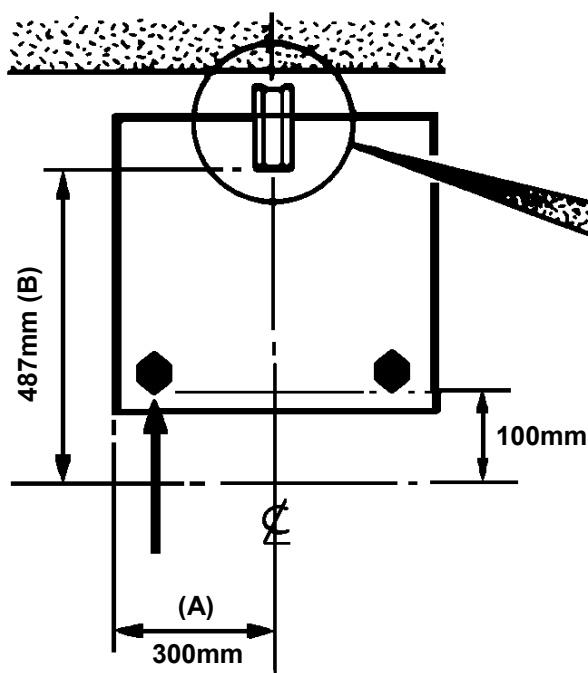
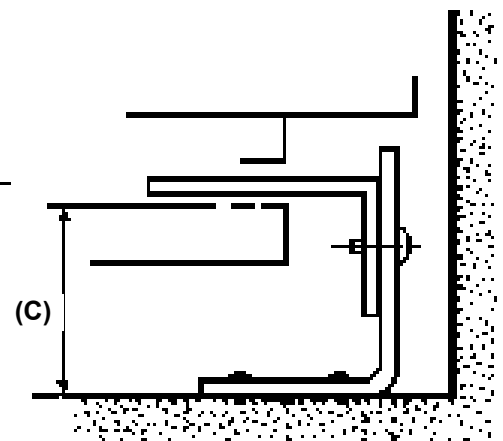

Fig.4a.
Fig.4b.
2. Mark off 300mm from the left hand side of the appliance as shown in dimension 'A' Fig.4a. This is the centre line of the fixing bracket.
3. Draw a line from the front edge of the feet (see Fig.4a) and remove appliance from its position. Mark off dimension 'B' (see Fig.4a) back from this line on the centre line of the bracket to locate the front edge of the lower bracket. Fix lower bracket (with two fixing holes) to the floor then measure the height from floor level to engagement edge on back of appliance, dimension 'C' of Fig. 4b.
4. Assemble upper bracket to lower bracket so that the underside of bracket is dimension 'C' + 3mm above floor level. (See Fig. 4b)
Reposition appliance and check that top bracket engages into appliance back as shown in Fig. 4b.